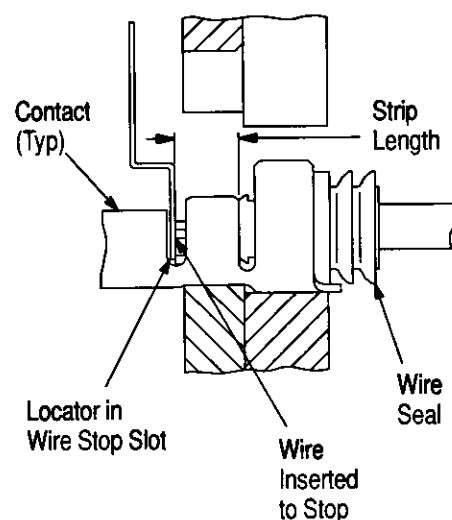

Figure 3
4. CONTACT SUPPORT ADJUSTMENT (Figure 3)**NOTE**
Refer to the table in Figure 1 and select wire of the specified size and insulation diameter. Strip the wire to the length indicated in Figure 1, taking care not to nick or cut wire strands. Select an applicable contact and identify the appropriate crimp section according to the wire size markings on the tool. Refer to Figure 3 and proceed as follows:
3. Position the contact so that the mating end of the contact is on the locator side of the tool, and so that the open "U" of the wire and insulation barrels must face the top of the tool. Place the contact up into the nest so that the movable locator drops into the slot in the contact. Refer to Figure 3. Butt the front end of the wire barrel against the movable locator.
5. Insert stripped wire (with the wire seal) into contact insulation and wire barrels until it is butted against the wire stop, as shown in Figure 3.
The crimped contact may stick in the crimping area, but the contact can be easily removed by pushing downward on the top of the locator (see Figure 3).